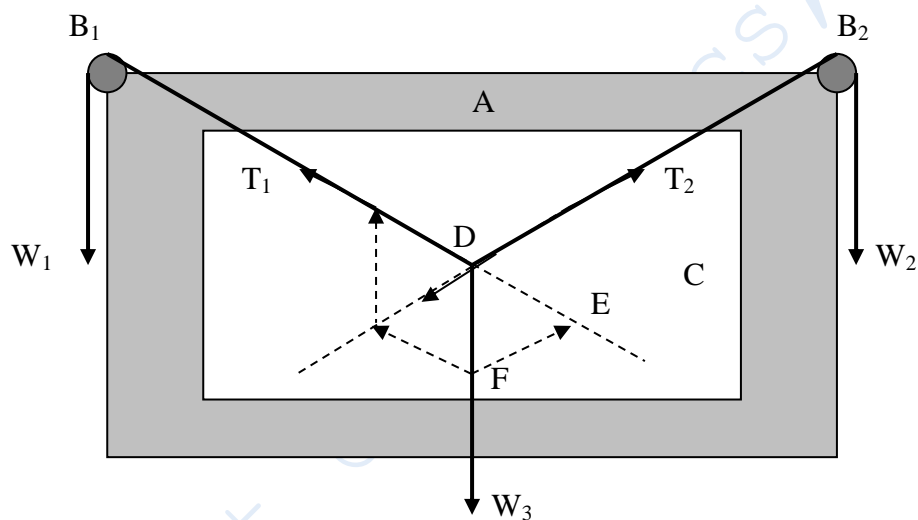

Figure A-1. T_1 and T_2 represent tensions in the string
If two concurrent coplanar forces are represented in magnitude and direction by the sides of a parallelogram, drawn from one angular point, then their resultant is represented in magnitude and direction by the diagonal of the parallelogram drawn from the same point (see Fig. A-1.)
1. Set up the apparatus as shown in Fig. A-1